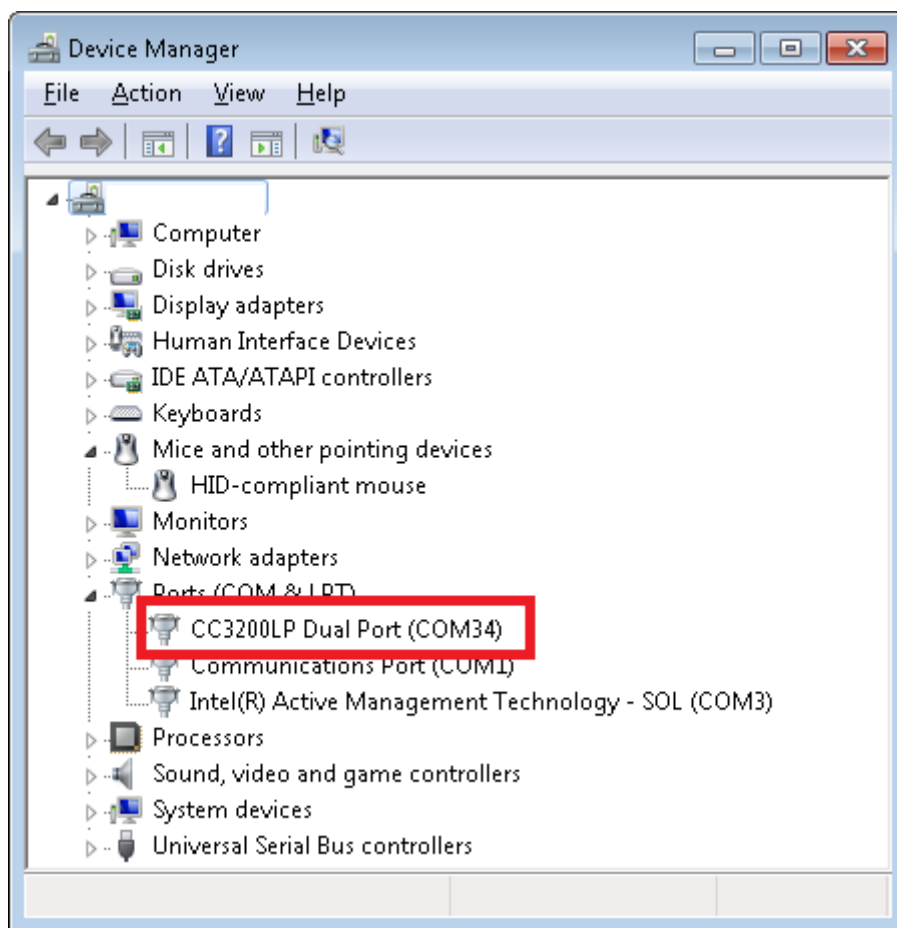

Figure 6. Device Manager
8. The CC3200-LAUNCHXL will now be visible in the Device Manager as shown in Figure 6. Note the COM port number that appears.